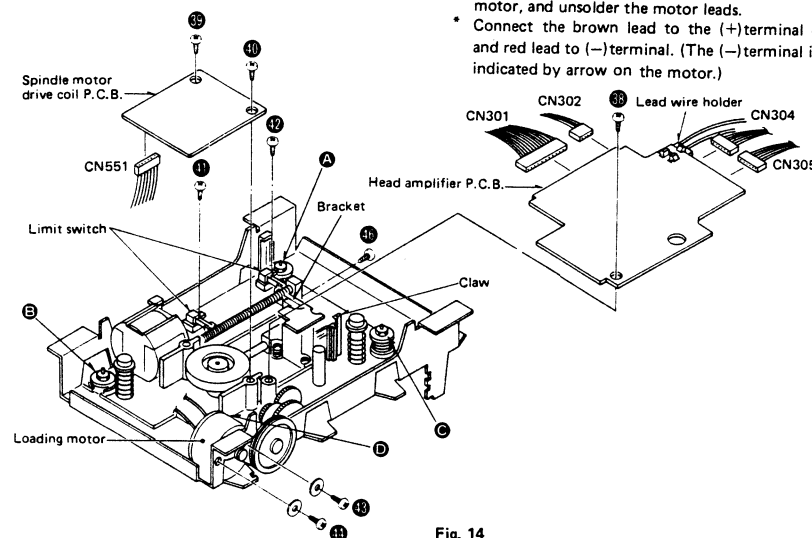

Fig. 14
4. Turn over the traverse unit and remove the 4 nuts [Fig. 14 ; ① ~ ④]. Then the travers unit ass'y.
2. Turn over the traverse unit and remove the head amplifier setscrew [Fig. 14 : ⑤].
5. Remove the 2 setscrews [Fig. 14 ; ③, ④] of spindle motor P.C.B. Then the spindle motor drive coil P.C.B. can be removed.
2. Remove the 2 setscrews [Fig. 14 : ③, ④] of limit switch, and unsolder the limit switch.
2. Remove the belt from the loading motor pulley. [Fig. 14]
3. Remove the 2 setscrews [Fig. 14 : ③, ④] of loading motor, and unsolder the motor leads.
2. Remove the bracket setscrew [Fig. 14 : ⑩] of pickup.
5. Pull out the 2 connectors [CN304, CN305] of head amplifier P.C.B. [Fig. 14]